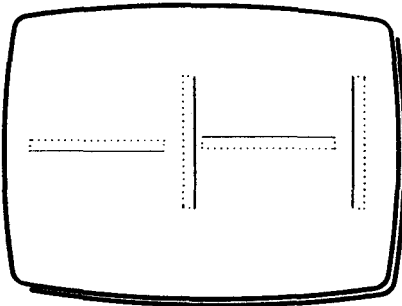

Fig 6
- 5 Press and hold L and rotate Z to rotate the box cursor, the solid line defines the bottom of the text. See Fig 6 for the different rotations possible.